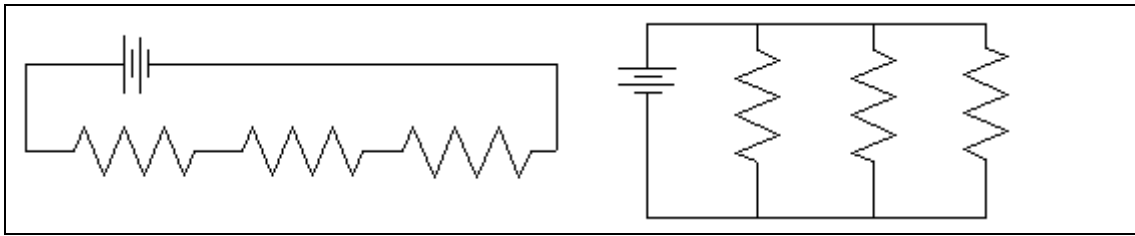

Figure 2.3 (Left) Resistors in series.
**Series and Parallel**---Resistors are said to be in series if they are in a line (sort of head to toe fashion). Resistors are said to be in parallel if all of the heads and all of the tails are connected together. See figure 2.3 for examples of series and parallel resistors.